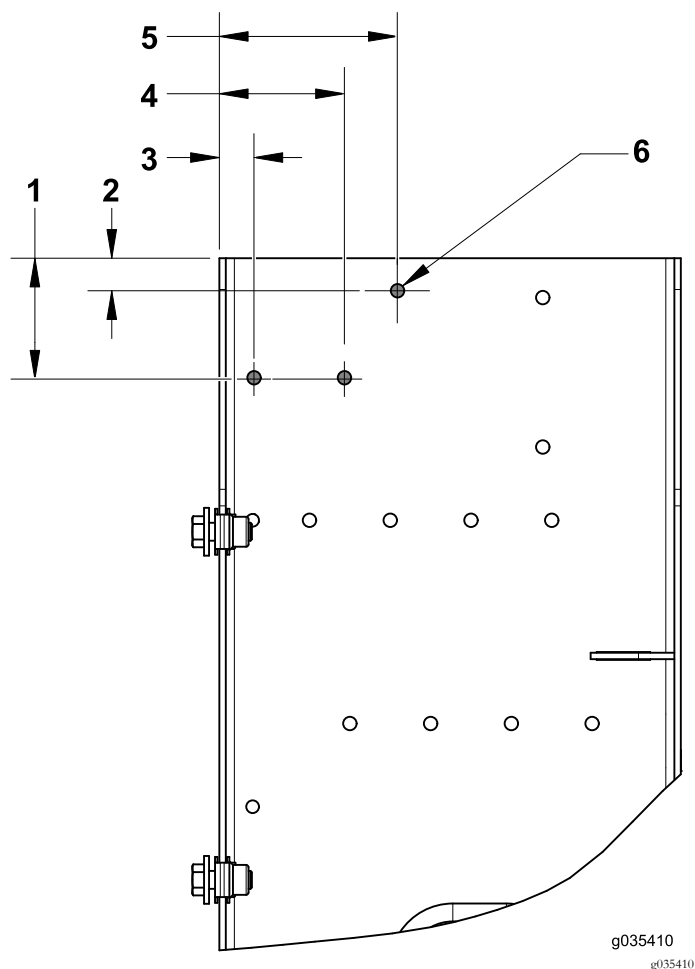

Figure 6
2. Locate and drill the following holes for the fuse block and relay (Figure 6).